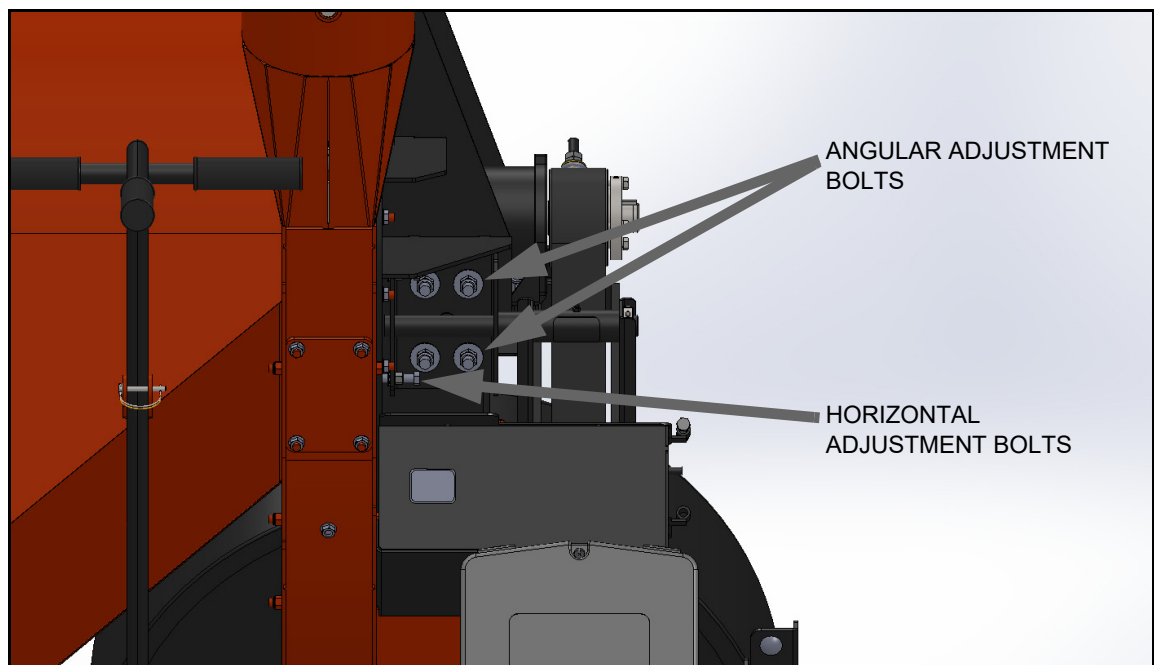

Figure 5.9 Angular Adjustment Bolts
2. If the belt is misaligned, first make the coarse or angular adjustment (see Figure 5.9). This is achieved by slightly loosening the 4 x 1/2" angular adjustment bolts that secure the shaft mount to the pedestal, and then by adjusting the two horizontal adjustment bolts to rotate the shaft mount. These bolts must be adjusted equally (in other words, 1 turn in on the top bolt requires 1 turn out on the bottom bolt to maintain proper position of the idler). The pulley should be adjusted to be parallel to the belt edge on the tight side of the belt. Then retighten the 4 x 1/2" bolts.